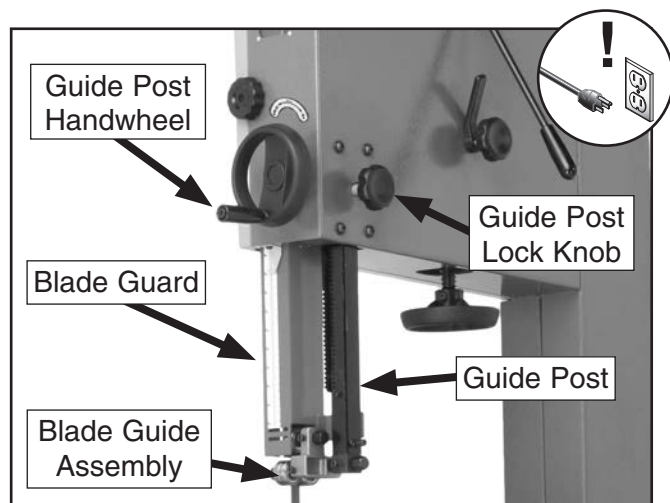

Figure 67. Guide post controls.
When cutting, the blade guides must always be positioned so they just clear (no more than $\frac{1}{4}$ ") the workpiece. The guide post, shown in **Figure 67**, allows the upper blade guide assembly to be quickly adjusted for height.
2. Loosen guide post lock knob (see **Figure 67**).